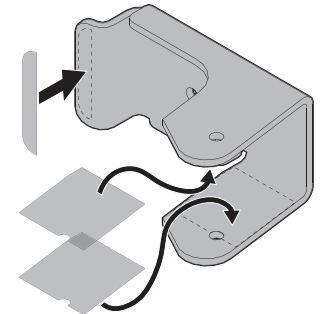

Figure 26
1. Before assembly, peel the adhesive decals from the sheet and apply to the inside faces of the right and left weight hanger brackets, as shown in Figure 26.